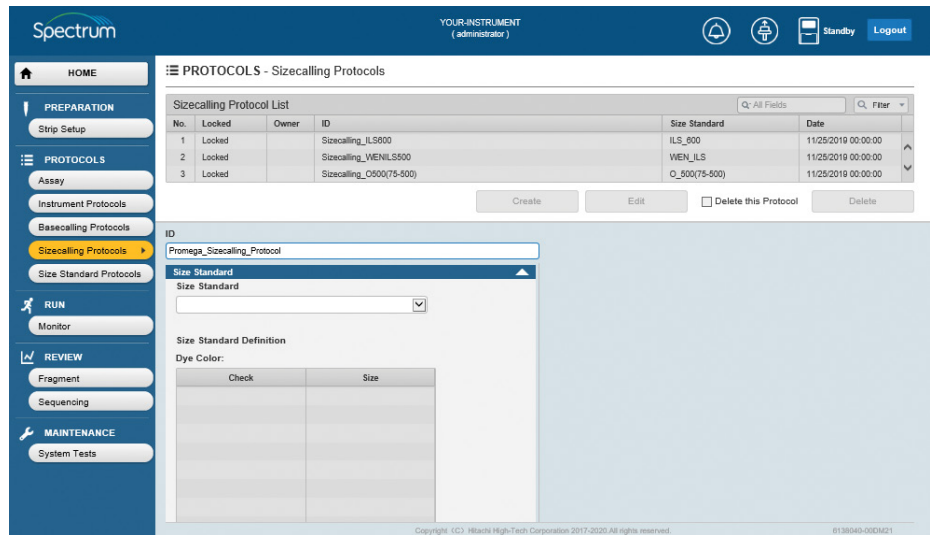

Figure 49. 'Size Standard' pull-down screen.
2. Enter a Sizecalling Protocol ID for the new sizecalling protocol by selecting the ID field to activate the cursor (see Section 3.1 for information on acceptable and unacceptable characters). Select the **Size Standard** pull-down menu and select the desired Size Standard from the pull-down menu (Figure 49).